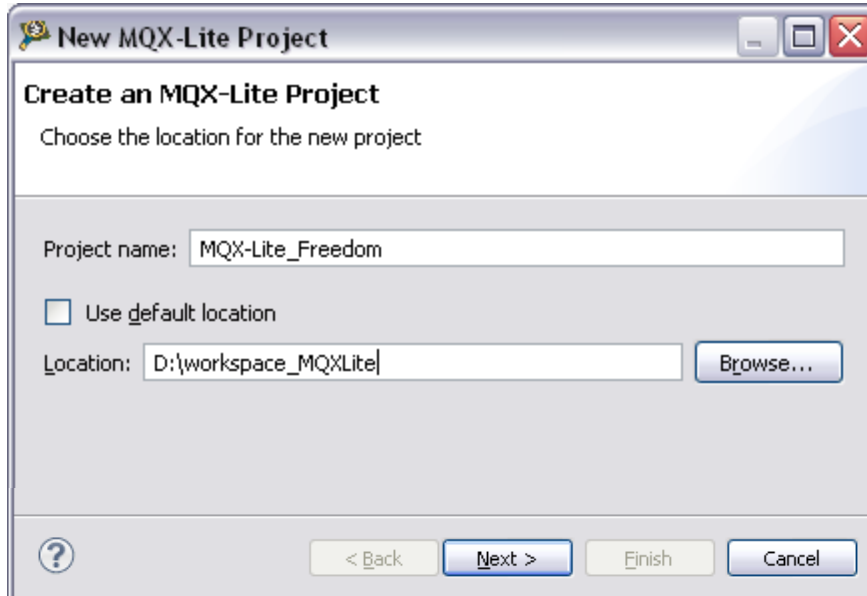

Figure 4. New MQX-Lite project wizard – Name and Location
2. The “New MQX-Lite Project” wizard starts and requests for a name for the project and a location. In this case the name “MQX-Lite_Freedom” and “D:\workspace_MQXLite” are used respectively. To finish this step click in the “Next >” button at the bottom of the window. Figure 4 demonstrates this.